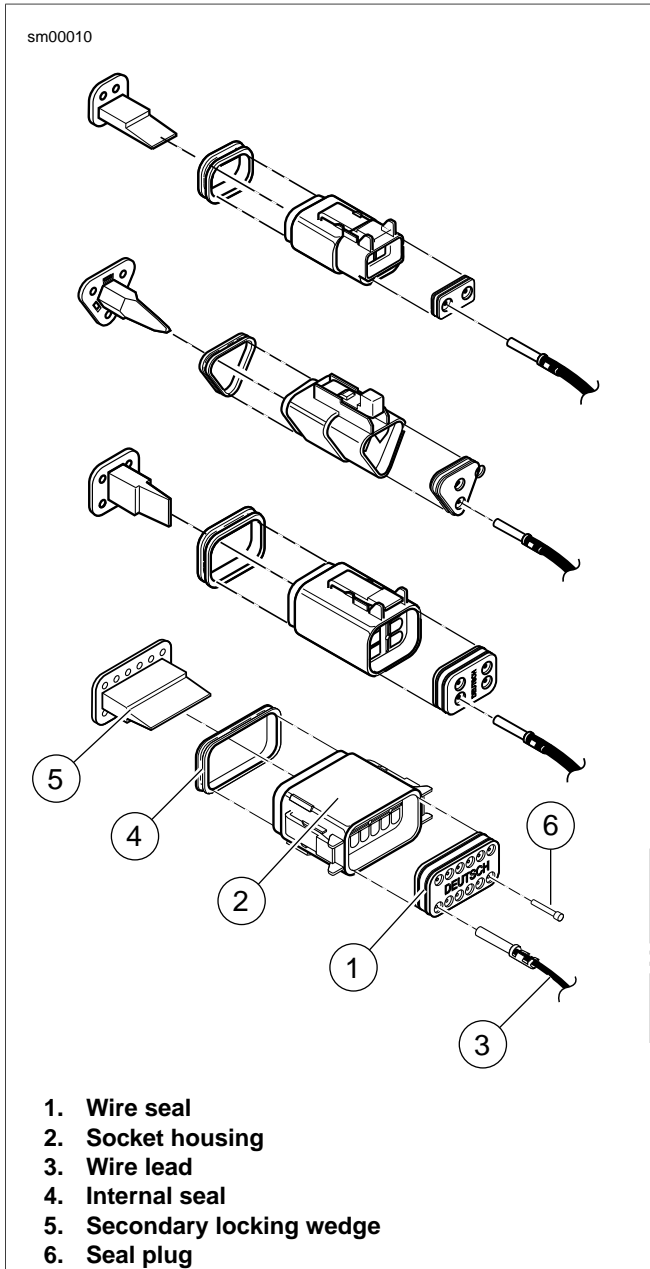

Figure A-15. Deutsch Connector: 2, 3, 4 and 12-Place Socket Housings
- See Figure A-15. Fit rear wire seal (1) into back of socket housing (2), if removed.
- Grasp wire lead (3) approximately 1.0 in. (25.4 mm) behind the socket terminal. Gently push socket through hole in wire seal into its chambers until it "clicks" in place.